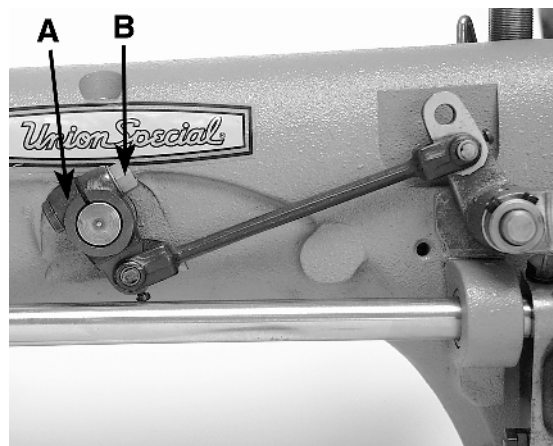

Fig. 6
Turn handwheel in the operating direction until the needle bar is at the bottom of its stroke. Loosen nut (B, Fig.6), and move upper feed lift driving lever (A) so that the teeth of the upper feed dog is $\frac{5}{32}$ " (7.9mm) for style 53700B and $\frac{3}{16}$ " to $\frac{13}{64}$ " (4.8 to 5.2mm) for style 53800B, above the top of the throat plate. Then tighten nut (B) securely.